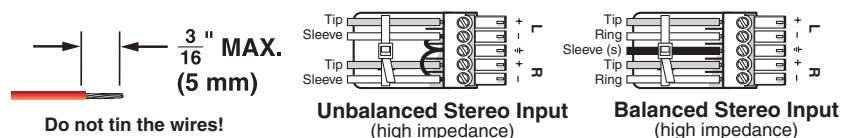
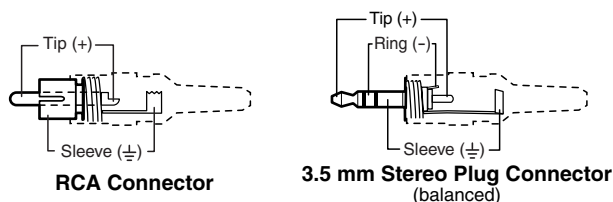
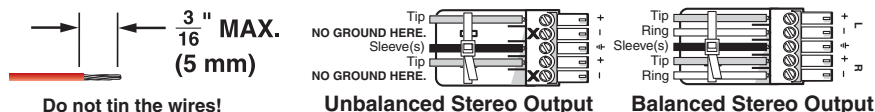

Figure 2-3 — Captive screw connector wiring for audio inputs
Figure 2-4 — Typical audio connectors
Figure 2-5 — Captive screw connector wiring for audio output
- ③ **Connections for balanced and unbalanced audio inputs** — Each input has a 3.5 mm, 5-pole captive screw connector for balanced or unbalanced stereo audio input. Connectors are included with each switcher, but you must supply the audio cable. See figure 2-3 to wire a connector for the appropriate input type. Use the supplied tie-wrap to strap the audio cable to the extended tail of the connector. High impedance is generally over 800 ohms.
NOTE See figure 2-4 to identify the tip, ring, and sleeve when you are making connections for the switcher from existing audio cables. A mono audio connector consists of the tip and sleeve. A stereo audio connector consists of the tip, ring and sleeve. The ring, tip, and sleeve wires are also shown on the captive screw audio connector diagrams, figure 2-3 and figure 2-5.
- ④ **Connections for balanced and unbalanced audio outputs** — These 3.5 mm, 5-pole captive screw connectors output the selected unamplified, line level audio. Connect audio devices, such as an audio amplifier or powered speakers. See figure 2-5 to properly wire an output connector. Use the supplied tie-wrap to strap the audio cable to the extended tail of the connector.